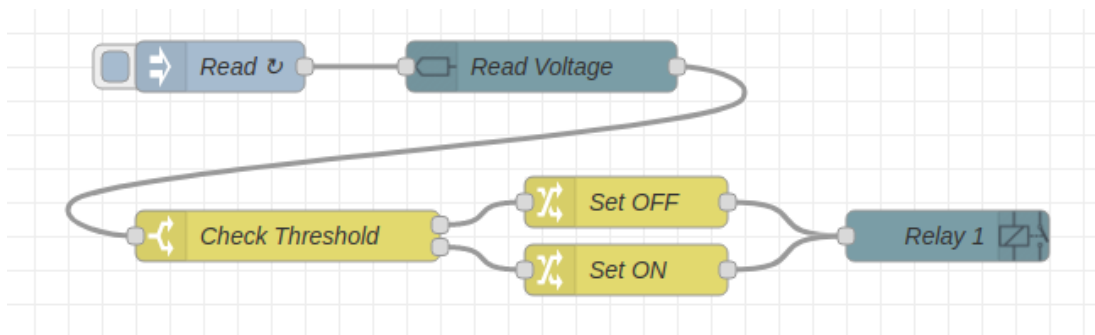

Figure 7-63: Burglar Alarm Flow
First, you will need to adjust the threshold. For the burglar alarm the threshold is high because you are interested in detecting the full brightness of the flashlight. However, for your porch light you want a low threshold. To determine a good threshold, hook up a gauge to the output of the "Read Voltage" node in Figure 7-63. Point your photoresistor out the window and come back when the sky is dark enough that
**Voltage Puzzle # 19 - Light Meets Motor.** Combine the burglar alarm flow of Figure 7-63 with a relay flow to control the operation of a motor in three different situations.